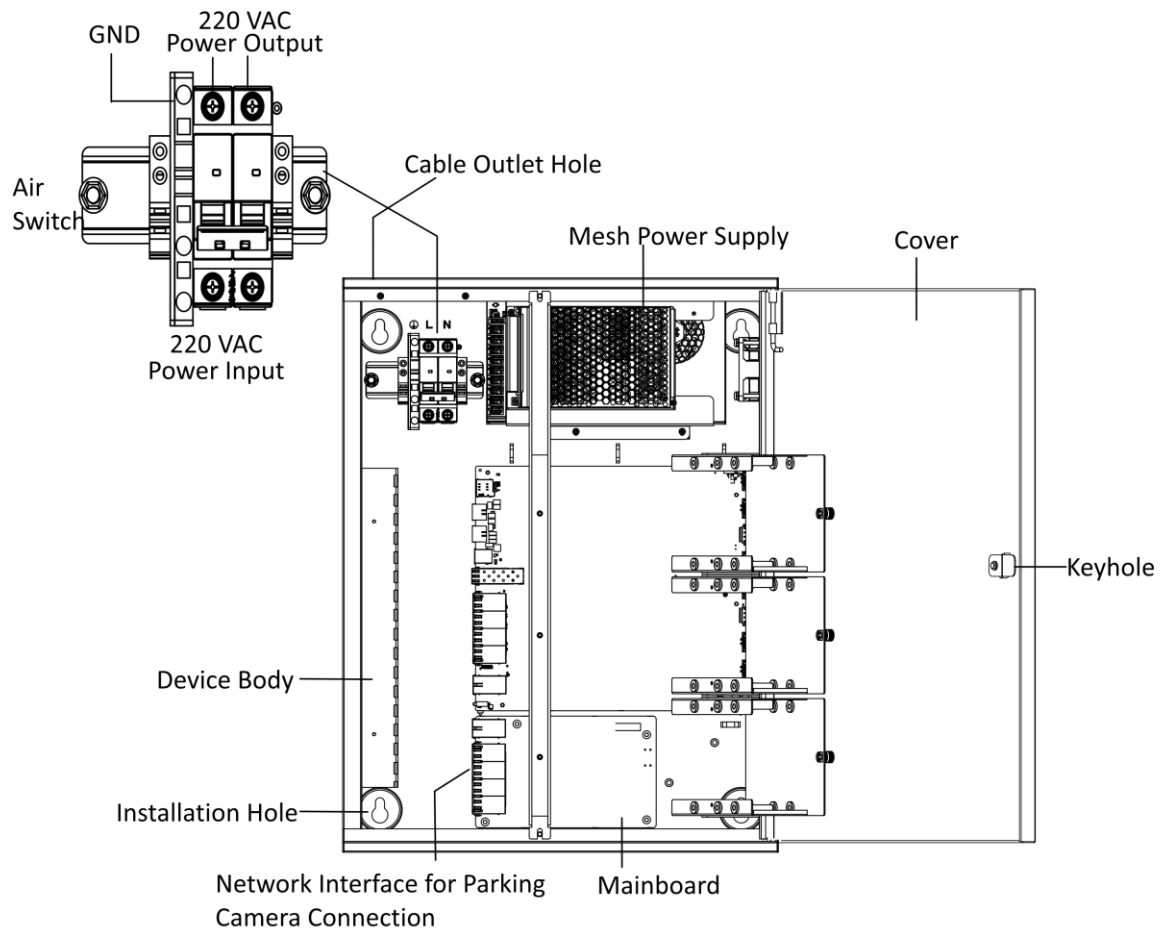

Figure 2-2 Open Cover
Step 1 Rotate the key in the keyhole to open the cover. The components of the device are shown in Figure 2-2.